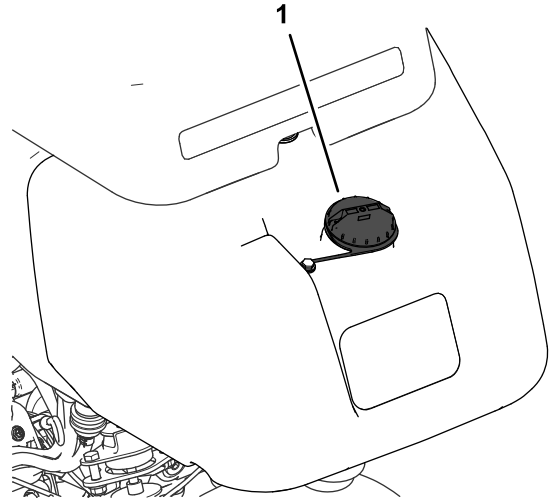

Figure 21
1. Clean around the fuel-tank cap and remove it (Figure 21).